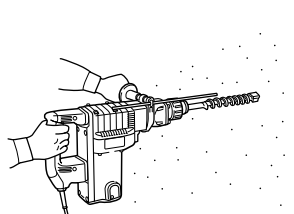

Fig. 4
- How to drill holes (Fig. 4)
- (1) Pull the switch trigger after applying the drill bit tip to the drilling position.
- (2) It is unnecessary to forcibly press the rotary hammer main body. It is sufficient to slightly press the rotary hammer to an extent that clips are freely discharged.